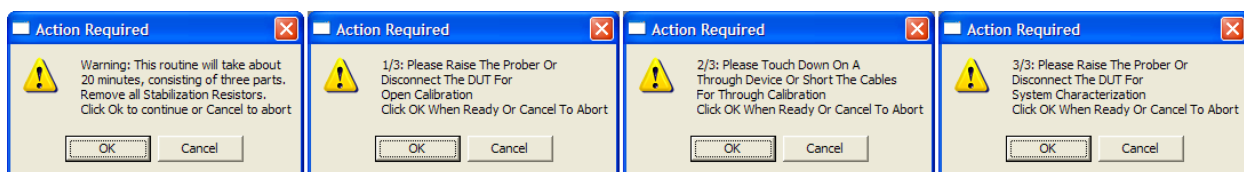

Figure 21a. Dialog boxes for Cable Compensation: Information, Raise probes, Touch down on through structure, Raise probes.
4. Click OK on the first dialog box to continue the CableCompensation Cal. (Figure 21a, left dialog box).